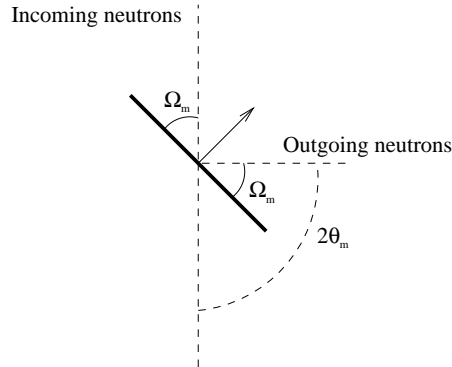

Figure 3: Illustration of the monochromator orientation
1. Keeping your current components, insert a Monochromator.flat component (use mcdoc or the component manual to get the needed parameters) and a new set of PSD and L_monitor after the monochromator. You should now add two new input parameters of your instrument, e.g. OMM (Omega Monochromator) and TTM (Two Theta Monochromator) for rotation of the monochromator and the remaining part of the instrument so that the orientation of monochromator is as portrayed in Figure 3. These two instrument input parameters should be added to the DEFINE line of the instrument (start of file). Remember to add an Arm() at the rotation point.